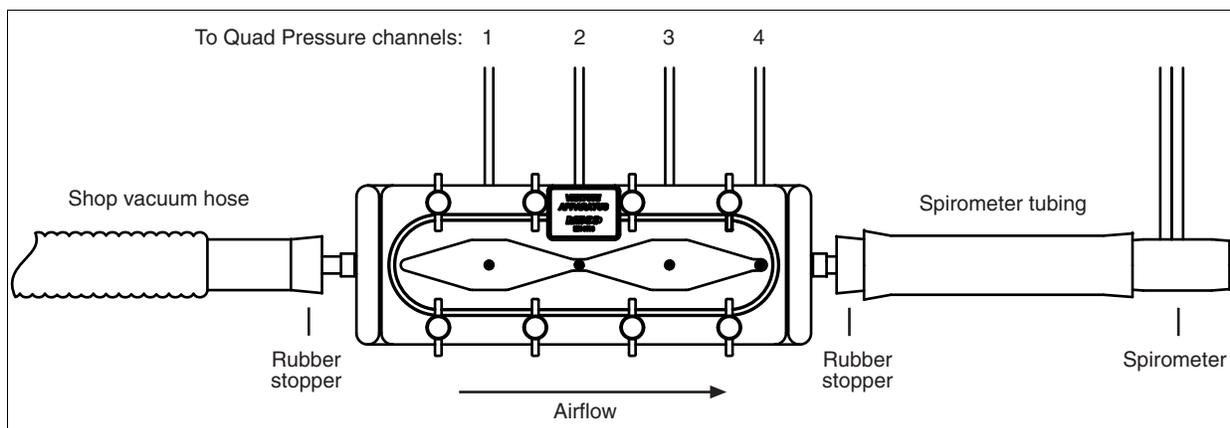

Figure 5: Setup for air with a shop vacuum
The Venturi Apparatus includes two rubber stoppers with holes. Use one of them to connect the hose of the shop vacuum to the inflow port of the apparatus (see Figure 5). Connect the hose to the air-blowing port of the shop vacuum.
*Note: Observe the correct direction of airflow through the apparatus indicated in Figure 5. If you will be using the shop vacuum to suck air through the apparatus, connect it to the outflow port, and connect the spirometer to the inflow port.*
other end of the spirometer tubing (see Figure 5 or 7). Assemble the mouthpiece and spirometer handle, and connect the spirometer to your PASPORT interface.